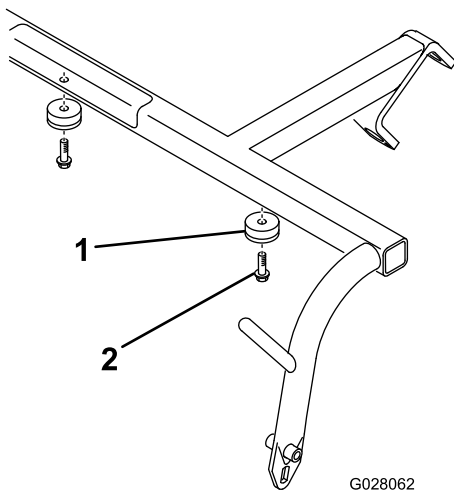

Figure 3
- Mount the 2 recessed bumpers to the underside of each pull-arm cross tube with 2 washer-head self-tapping screws (Figure 3).
- Remove the screws, or nuts if equipped, securing the outside ends of each anti-scalp roller shaft to each end of the carrier frame (outside end of shafts only); refer to Figure 3.